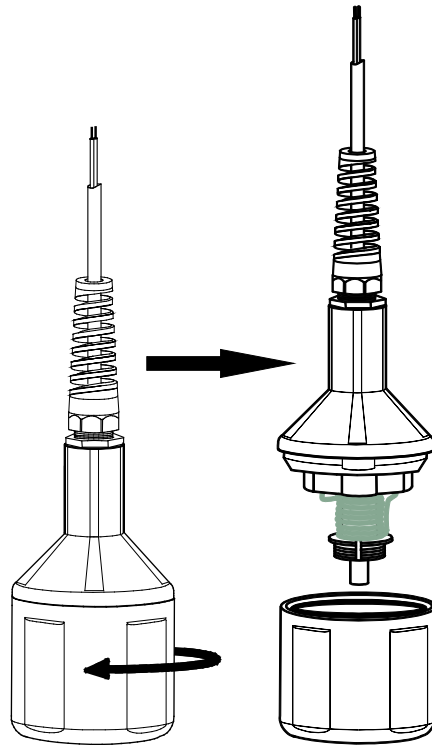

FIGURE 8-1. Separate the lower body from the upper body
1. Unscrew the lower body from the upper body (FIGURE 8-1).